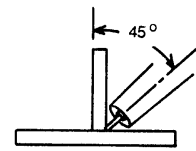

Figure 2.4
3. The electrode should be positioned at a  $45^\circ$  work angle and a  $10^\circ$  to  $15^\circ$  drag angle to perform the weld. (See Figures 2.4 and 2.5.)